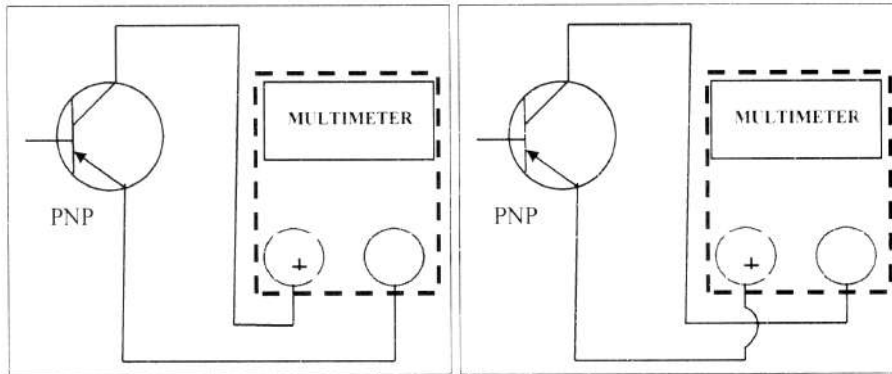

**Fig. 5**
- (i) Connect the negative probe of multimeter to the base terminal of the transistor and positive probe to either emitter terminal or collector terminal (as shown in Fig. 5). In both the cases forward biasing condition will satisfy and multimeter will show some reading.